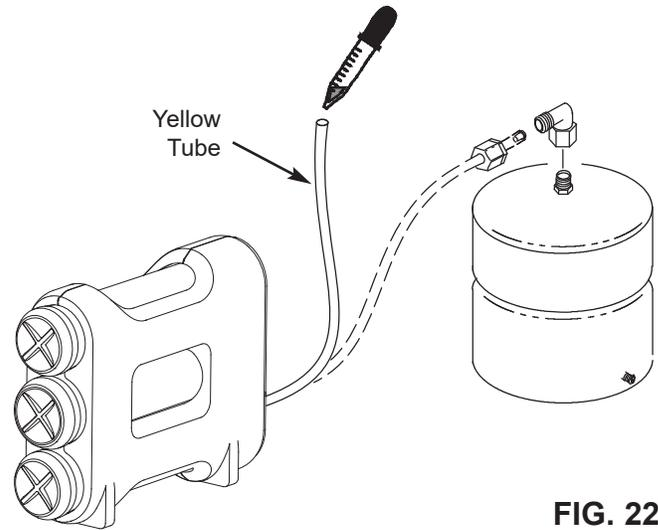

FIG. 22
Sanitizing is recommended immediately after installation of the Reverse Osmosis system. It's also recommended after servicing inner parts. It is important that the person installing or servicing the system have clean hands while handling inner parts of the system. Complete the following steps to sanitize the system. See Fig. 22.
4. Add 3 ml. of bleach into open end of yellow tube. Handle bleach according to bleach manufacturer's recommendations. See Fig. 22.